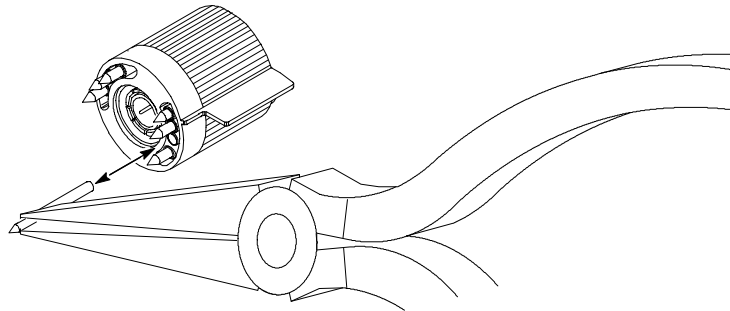

Figure 2: Replacing TekProbe interface pins
1. To remove the interface pin, grasp the pin with a pair of needle-nose pliers and gently pull the pin out. See Figure 2.